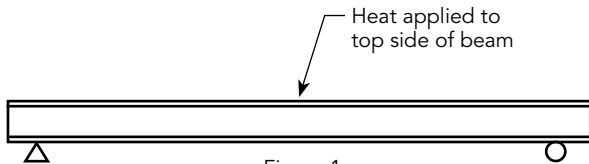

Figure 1
- 3 Looking at Figure 1, if heat is applied to the top side of the beam, this will induce a final camber in which direction?